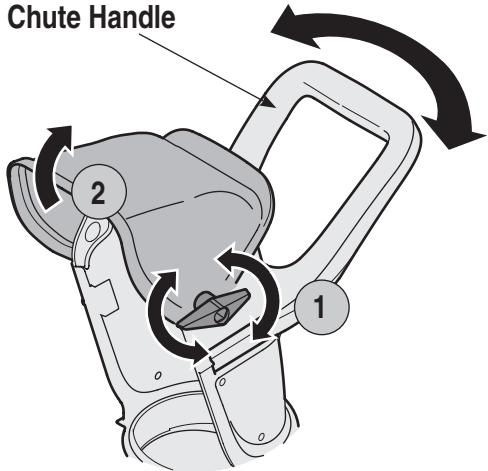

Figure 1
1. Loosen the chute knob on the upper chute(1) and pivot the upper chute upwards(2) as far as it will go. See Figure 1.